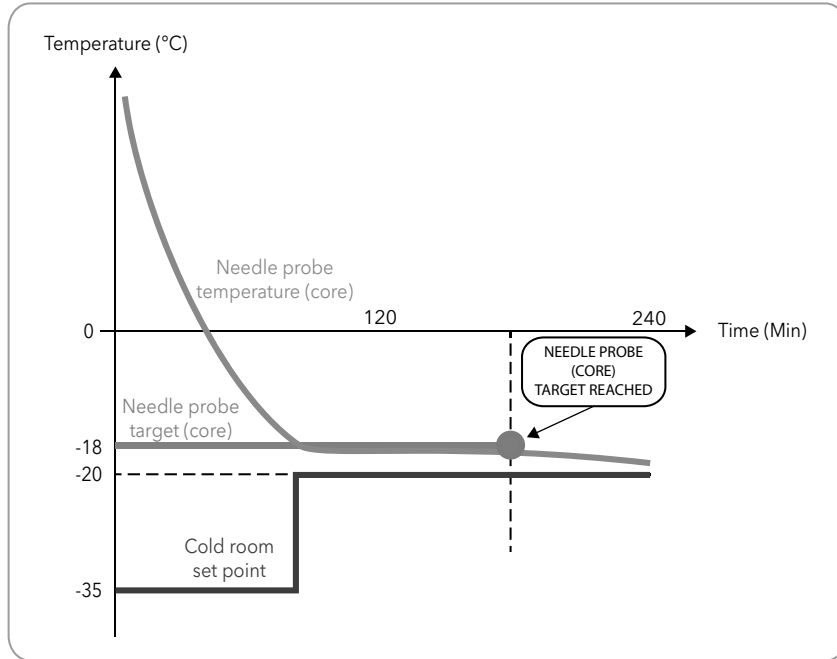

Fig. 12. Negative program with hard blast chill mode
- negative (freezing), with negative reference temperature (target temperature), and hard blast chill mode (**Fig. 12 on page 66**);
The numeric values shown in **Fig. 12** on page 66 are the default values.